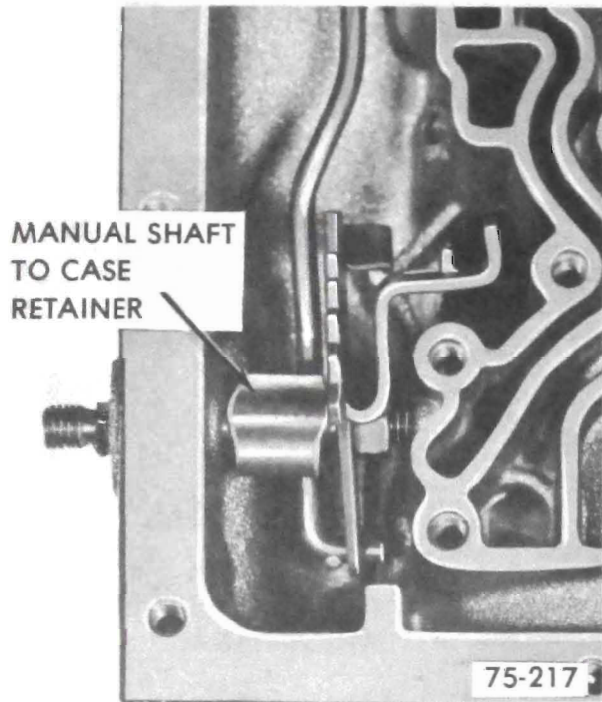

Figure 75-276
6. Install manual shaft to case retainer ring. See Figure 75-276.